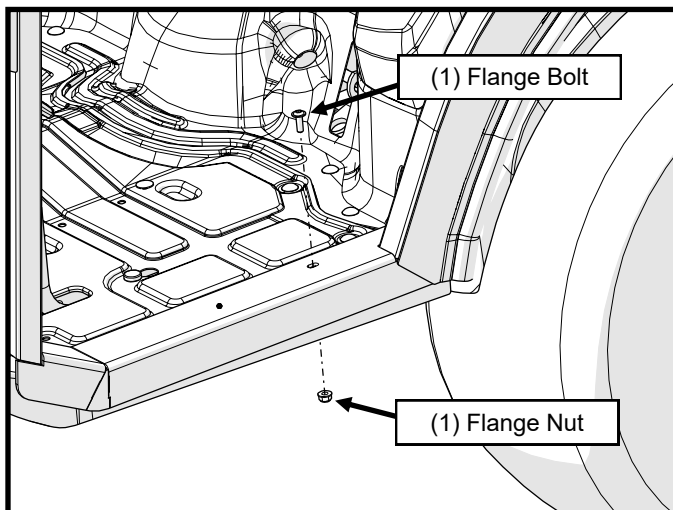

Figure 31: Secure Side frame to Floorboard
31. Secure the cab floorboards to the tractor floorboard with 1/4-20 x 3/4" Flange Bolts and 1/4-20" Flange Nuts, one set on each side of tractor. See Figure 31.